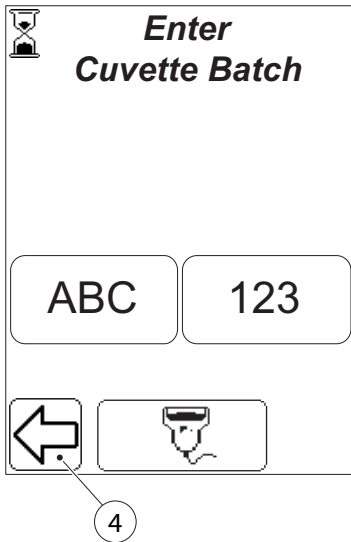

FIGURE 4-2
- a) In the Main Menu, press the Patient Test button (1).
- b) *FIGURE 4-2* will be displayed.
Note that *FIGURE 4-2* will not be displayed if the Cuvette Batch No. requirement is set to "Not Used" in the Settings (see 3.4.1 *General Settings*).